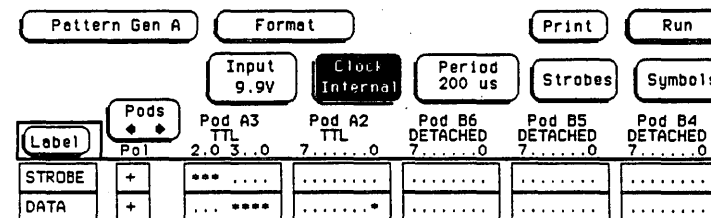

Figure 4-8. Internal Clock
- i. Touch Clock to set clock source to internal. See figure 4-8.